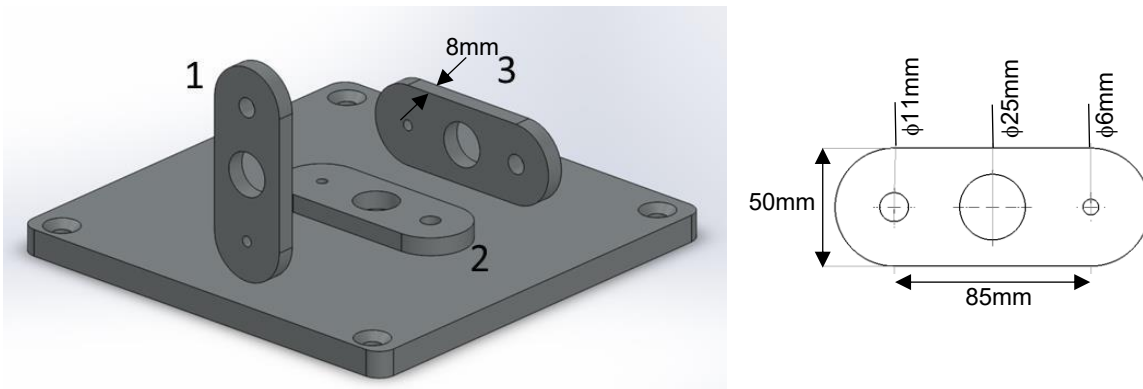

Figure 1 (c) Three different build orientations and dimension of the part.
Figure 1 (a) penetration depth as a function of volumetric energy density for LPBF of stainless steel. (b) Relative density vs VED of LPBF fabricated stainless steel.
(a) For each set of process parameters below, calculate the VED and use the provided graph (Figure 1) and Table 1 to determine the melt mode. Give your answer for VED to two decimal places.
(b) Using the provided Relative Density vs. Volumetric Energy Density graph as shown in Figure 1 (b) and the process parameters given in Table 1, recommend an optimised combination of laser power and scanning speed that maintains high density in the part produced using LPBF of stainless steel and justify your choice. [4 marks]
- (c) A part which includes three holes of diameter 11 mm, 25 mm and 6 mm respectively is shown in Figure 1 (c). This part is to be manufactured using Selective Laser Melting (SLM) additive manufacturing on a 200 mm × 200 mm base plate. Considering the three build orientation options illustrated (Cases 1, 2 and 3), discuss the advantages and limitations of the build orientations by considering any four factors. [8 marks]